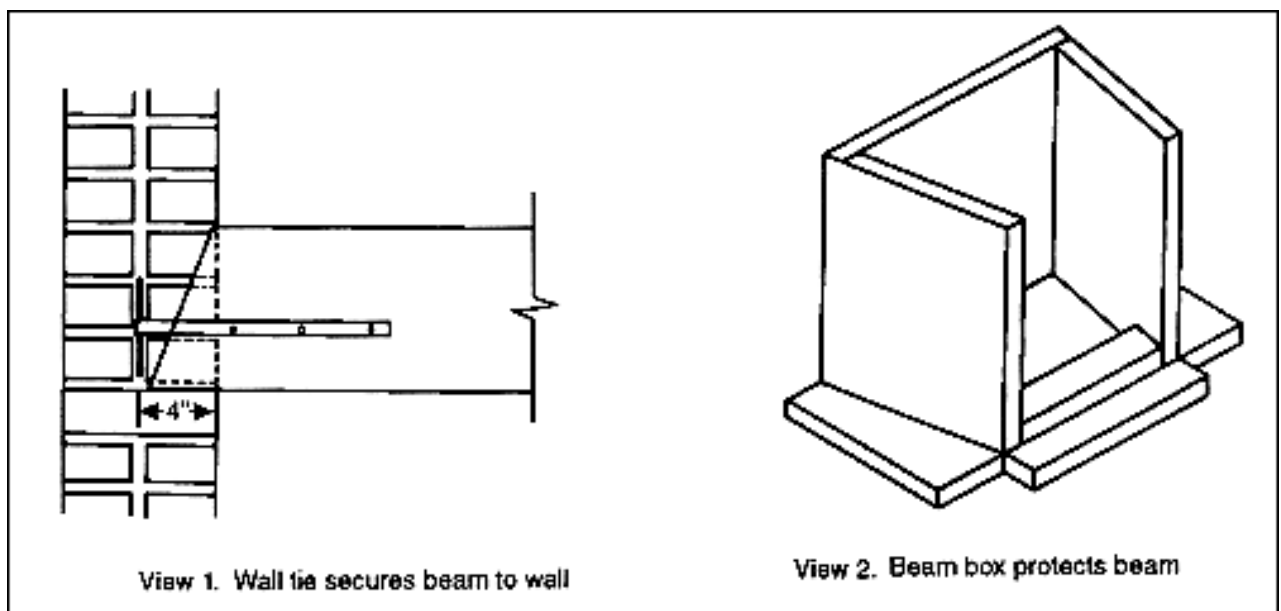

Figure 9-41. Supporting a wood beam on a brick wall
- Wood Beams. Figure 9-41 shows how to support a wood beam on a brick wall. Note the wall tie. Keep mortar away from the beam as much as possible, because wood can dry rot when completely encased in mortar. Protect the beam with a beam box (see Figure 9-41). Cut the end of the beam at an angle so that, in case of fire, it will fall without damaging the wall above the beam. For an 8- or 12-inch wall, let the beam bear on the full width of the inside tier.